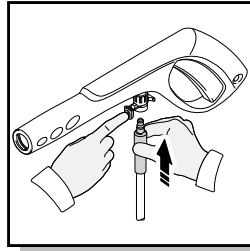

Fig. 6
- Connect the other end of the high pressure hose to the spray gun by inserting the brass metal tip of the high pressure hose into the fitting just ahead of the trigger guard. It will lock into the spray gun with a “click” (Fig. 6). Confirm the hose is locked into the spray gun by pulling slightly on the hose. The hose is now securely attached to the spray gun.